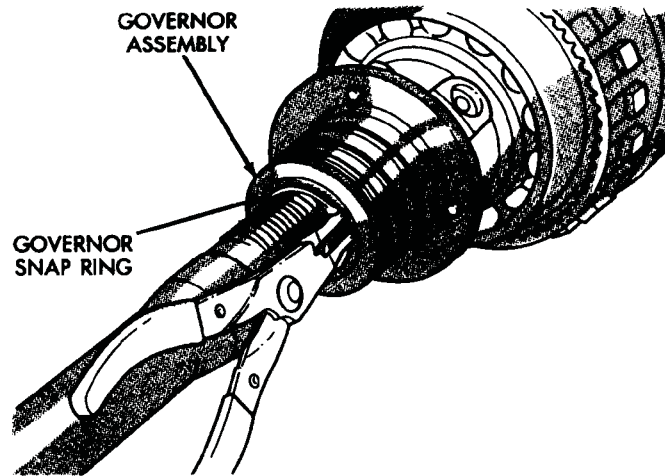

Fig. 68 Governor Snap Ring Installation
- (8) Install governor assembly snap ring (Fig. 68).
- (9) Tighten governor body attaching bolts to 11 N·m (8 ft. lbs.) torque.
- (10) Install output shaft rear bearing in case and install bearing snap ring. Be sure snap ring is fully seated.